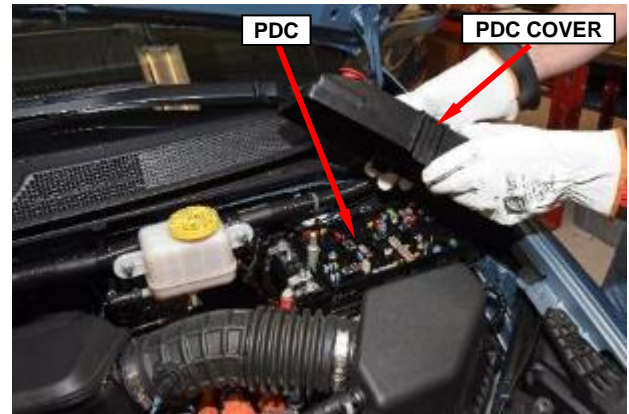

Figure 5 – Power Distribution Center
11. Open the hood for 12-volt Power Distribution Center (PDC) access (Figure 5).
12. Remove the 12-volt Power PDC cover (Figure 5).